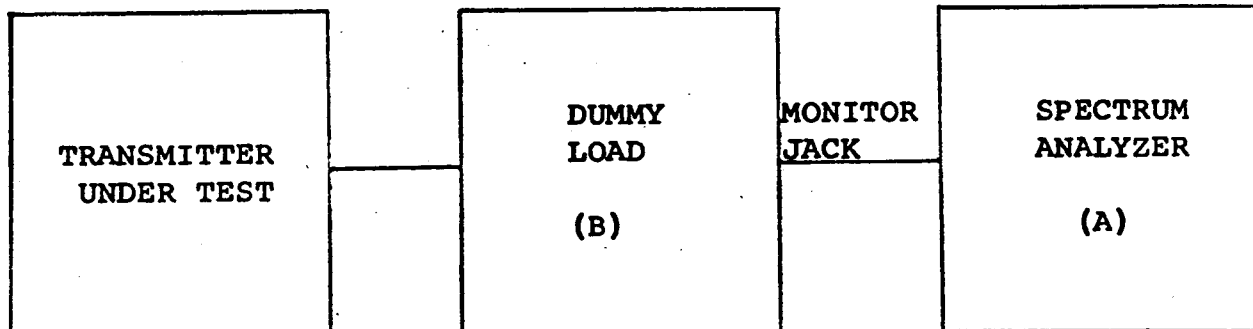

FIGURE 2.2
- a. Connect the equipment as shown in Figure 2.2.